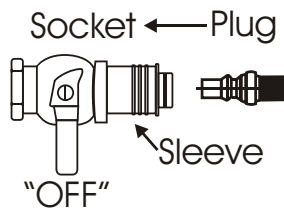

Fig. 26
1. Place the “quick coupler” handle in the OFF position and push back the sleeve. The valve handle must be OFF to make the connection. (Fig. 26)